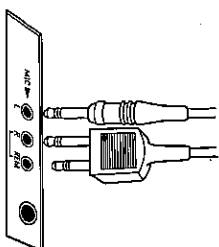

Fig. 8
3. Plug the Right channel microphone (two-pronged plug) into the RIGHT MIC and REMOTE jacks. Monaural recording is made on both channels by this operation. (Fig. 8, 9)